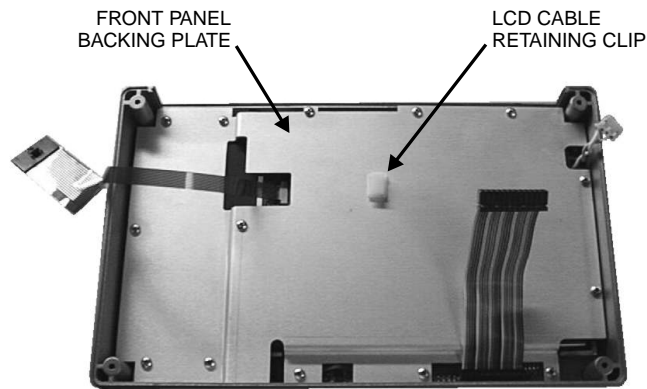

Figure 13. Front Panel Backing Plate
4. Release the LCD display cable from the retaining clip on the front panel backing plate (Figure 13).